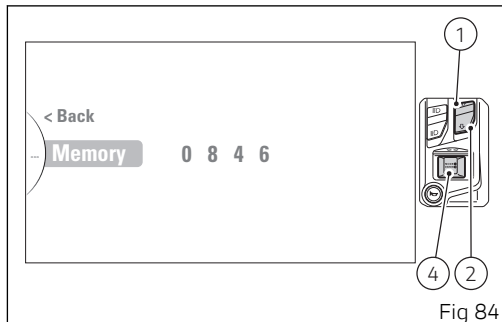

Fig 84
To memorise the entered code, highlight the "Memory" indication (orange) and press button (4) (Fig 84).